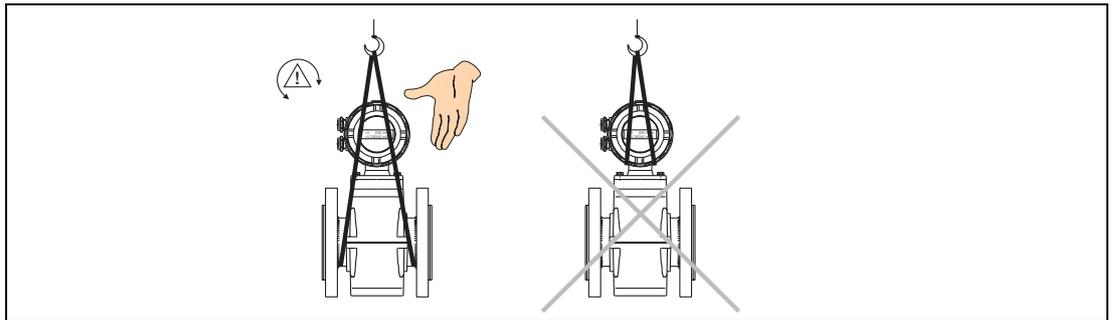

Fig. 2: Transport of Flanged Instruments \leq DN 300 [12"]
- when transporting flanged instruments \leq DN 300 [12"] please use lifting straps and position them around both process connections (Fig. 2). Chains are to be avoided since they might damage the housing.